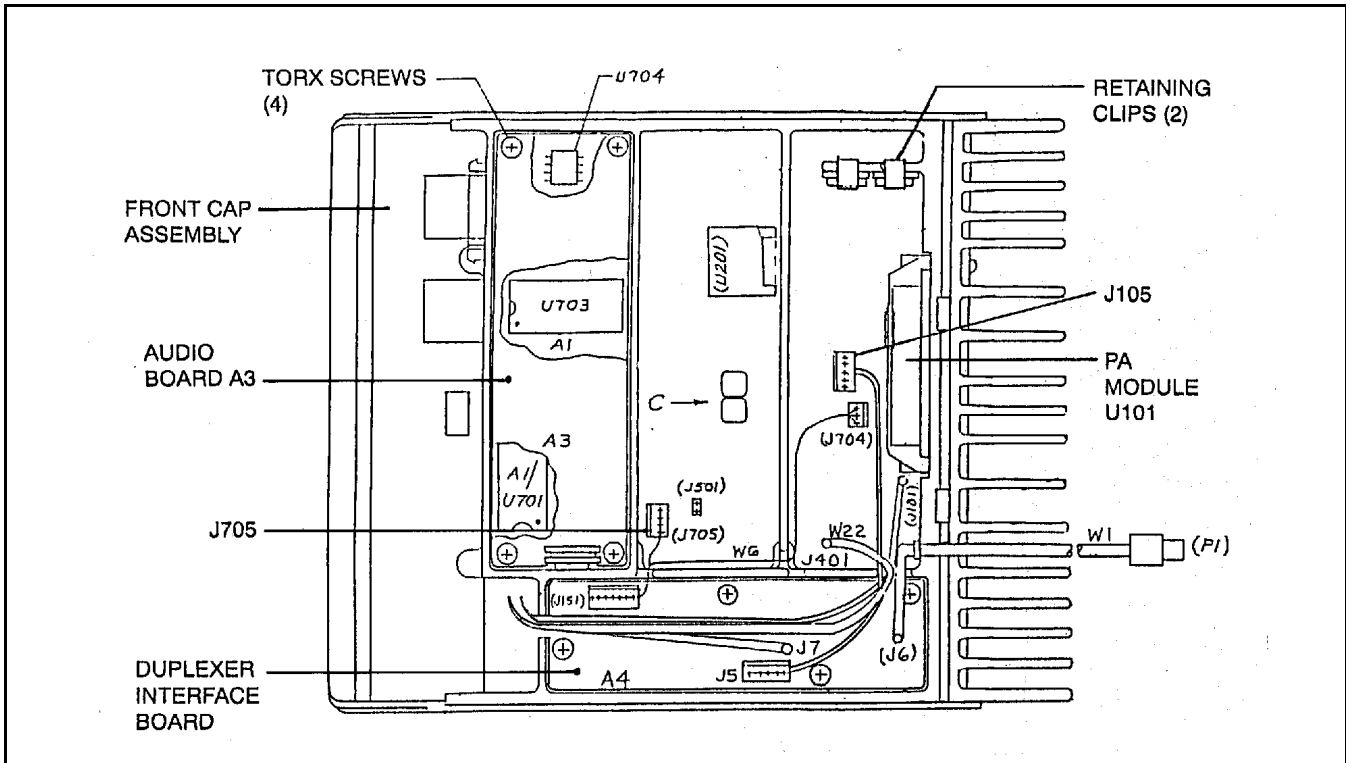

Figure 4 - Top View
4. Remove the two clips (Figure 4) securing Q101 and U102 to the frame (on top side of board).
2. Refer to Figure 4. Remove the four M3.5-0.6 x 8 TORX screws (#15 drive) securing the Audio Board to the radio. Pry out the board using a screwdriver in the hole previously occupied by the clip.